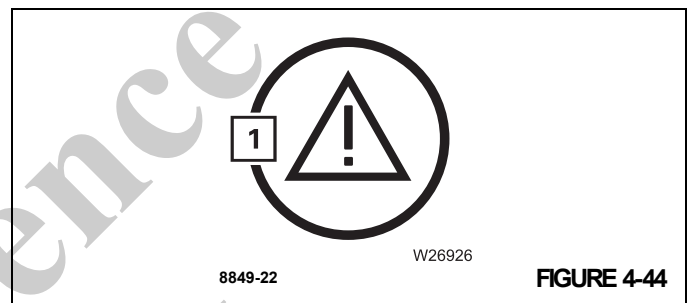

FIGURE 4-44
If an error is present, a symbol (1), (Figure 4-44) is shown, refer to *Display in the Event of Errors*, page 4-52.